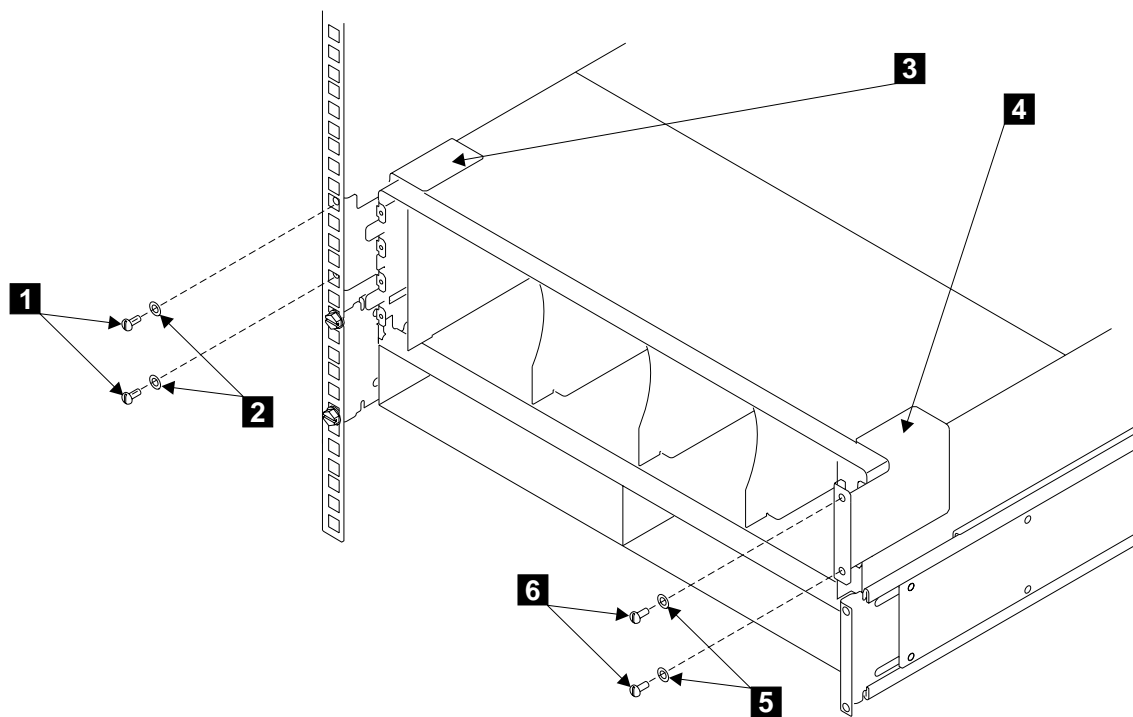

Figure 123. Removing the Back Brackets (Netfinity)
Refer to Figure 123.
- a. Refer to Figure 123 on page 215.